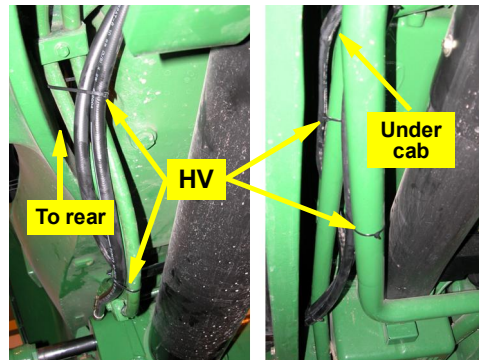

Figure 4b - left and right images: Tied steering hoses routed back to the steering block
- b. Tie the hoses together using the heavy tie straps **HV**. Continuing the use of tie straps **HV**, route the steering hoses back to the tractor steering lines (Figure 4b, left image) then under the cab (Figure 4b - right image) and back to the hydraulic steering block.